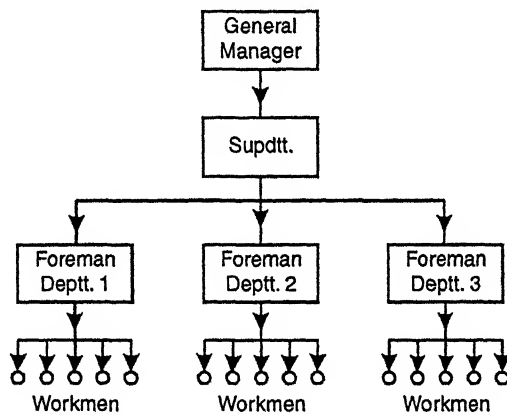

Fig. 7.6. Line organisation.
1. **"Line" or Departmental type of organisation.** It is also called "*Scalar*" or *Military* type organisation. In this type of organisation the authority flows directly from the boss to various sub-executives in charge of particular phases of the business and from them to the other workers. Fig. 7.6. illustrates this type of organisation. It is evident from the figure that superintendent is under direct control of general manager and foreman of the departments receive orders and instructions straight way from superintendent whilst workmen are under direct authority of a foreman of different departments.